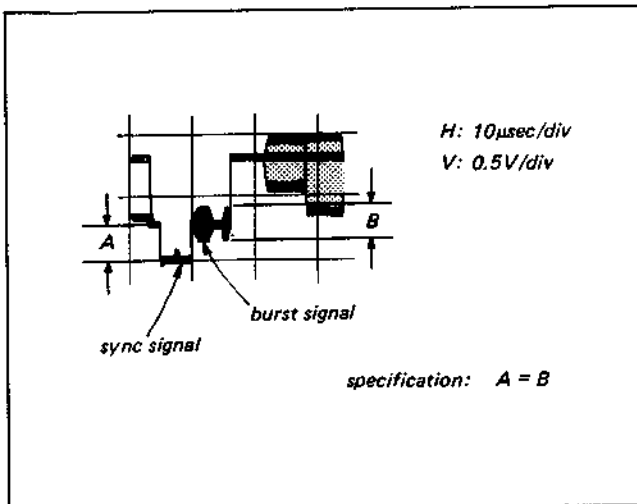

Fig. 4-4-8. Chroma level adjustment
- (1) Supply the VTR with the colour bar signal and set up the E-E mode.
- (2) Connect the oscilloscope to TP17 (VIDEO OUT) on the YC-6 board.
- (3) Adjust RV4 for the equal levels of the sync signal and the burst signal. (See Fig. 4-4-8.)